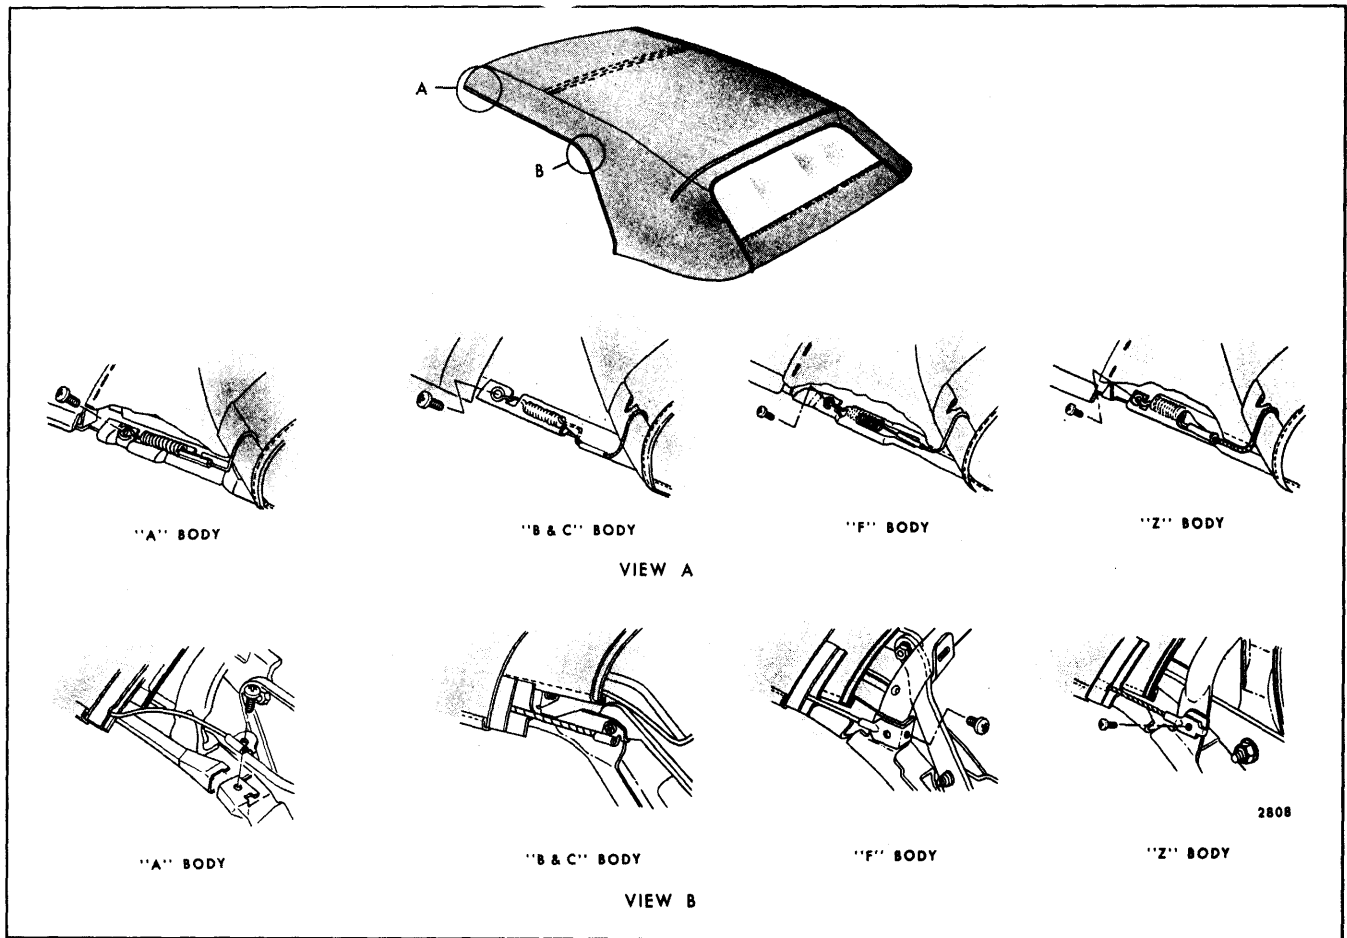

Fig. 13-25—Hold Down Cable Attachment
Raise front roof rail slightly above windshield header. A length of welding rod or equivalent wire can be used to facilitate cable insertion by pulling cable through listing pocket. Install attaching screw at rear of cable. Then, apply forward pull on cable and install front attaching screw (Fig. 13-25).
7. With front roof rail several inches off windshield header, remove attaching screws from front and rear of each hold-down cable (Views "A" and "B" in Fig. 13-25) and remove cables.
7. With top several inches off header, remove rear attaching screw from hold-down cables (View "B" Fig. 13-25).